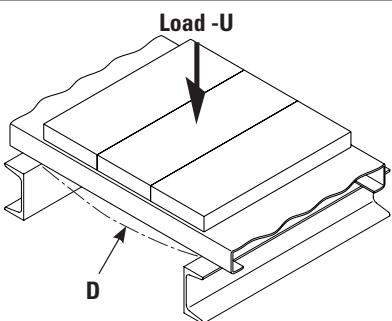

Figure 1
Design load assumptions differ according to load type: (1) uniform, (2) concentrated (see Figures 1, 2 and 3 below for explanation of load application). Concentrated load capacities generally vary with span, siderail height and material thickness, irrespective of grating width, although large differences in grating width cause concentrated loads to be distributed somewhat differently into siderails.
Deflection (in.) corresponding to maximum load (U) or (C) permitted by flexural stress in siderail or grating strut, whichever is lower, applied as defined in Figures 1 or 2, and 3.